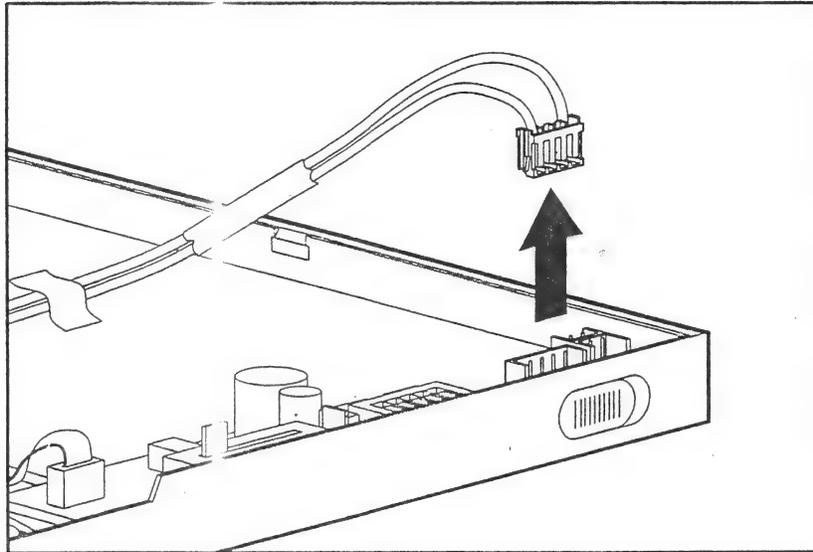

Figure 2-21. Removing the Power Supply Harness
2. Remove the power supply harness (Figure 2-21).